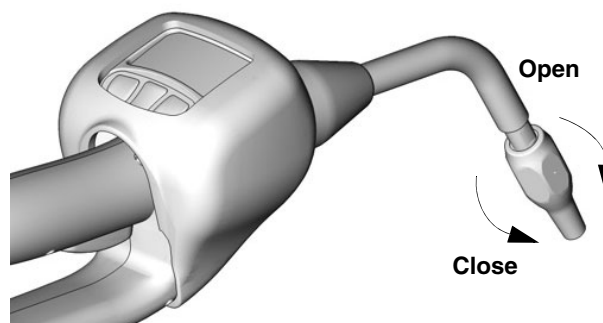

FIG. 21
- To close the nozzle to prevent dripping, rotate left (counter clockwise) until tight. See FIG. 21.
Quick close nozzle is closed.	Open nozzle, see FIG. 21 on page 15.